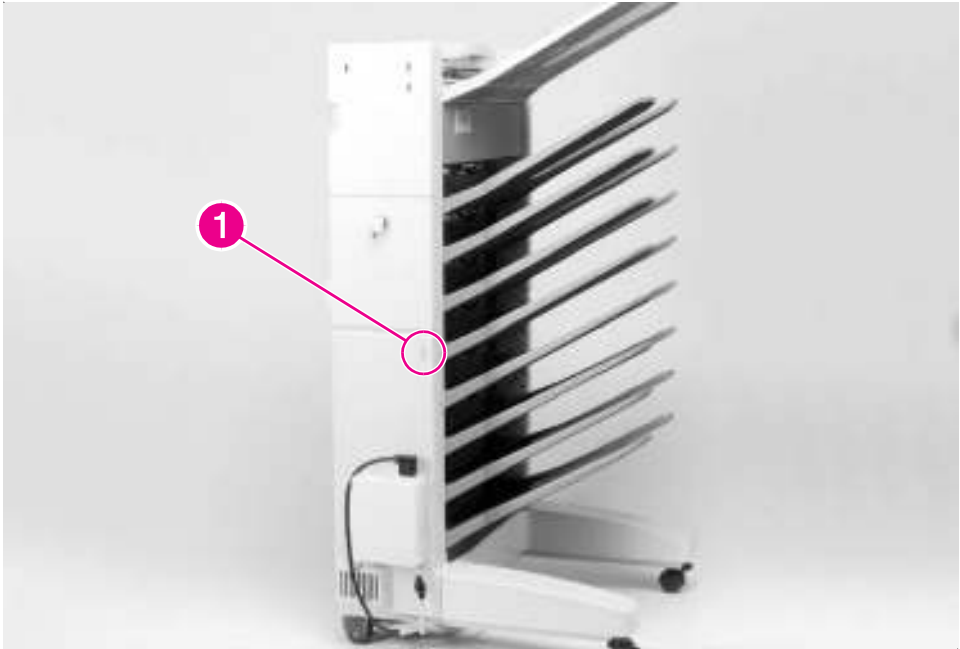

Figure 6-172 8-bin Mailbox Diagnostic LED PCA (1 of 2)
- 1 Locate the Diagnostic LED that is on the back side of the 8-bin Mailbox (Figure 6-172, callout 1).